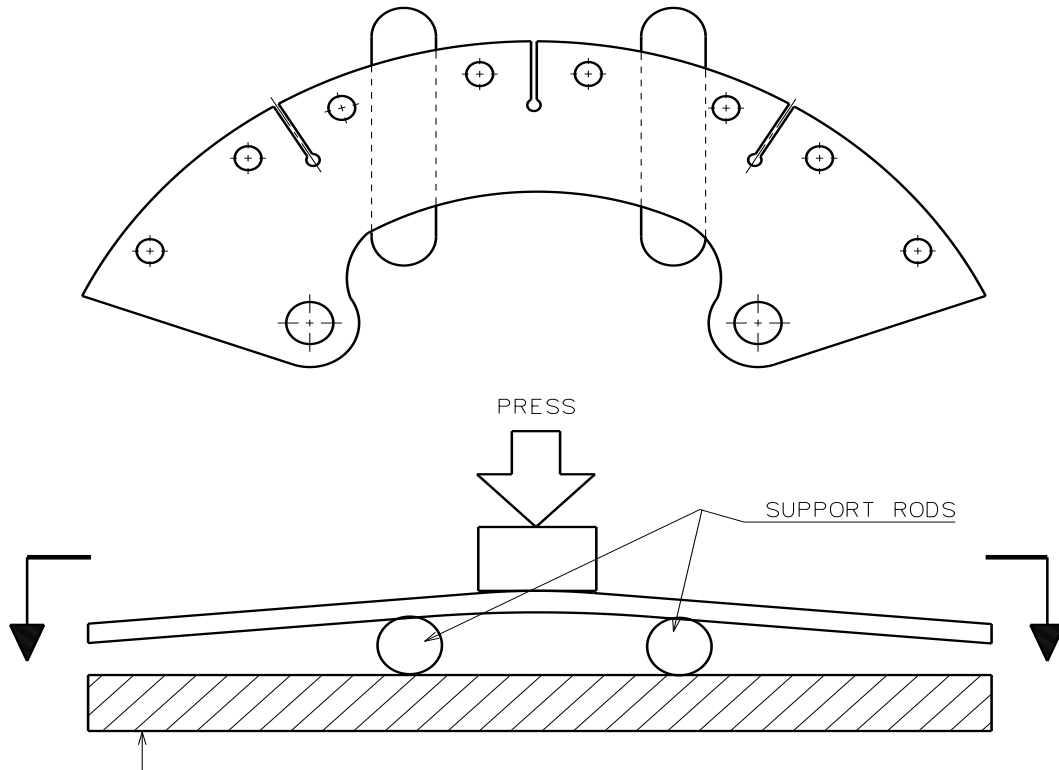

Figure 203 - Pressure Plate Straightening
- 4 Inspect pressure plate and back plates for excessive warping. Straighten pressure plate to less than 0.010 inch (0.254 mm) flatness, as shown in Figure 203.
- 3 Inspect pressure plate and back plate for excessive corrosion, visible damage, or excessive warping. Pressure plate should not be used if warped in excess of 0.010 inch (0.254 mm) flatness, by using draw flattening or straightening techniques. Ref. Figure 203. Excessive warping can result in brake drag, especially when new disc and linings are installed.